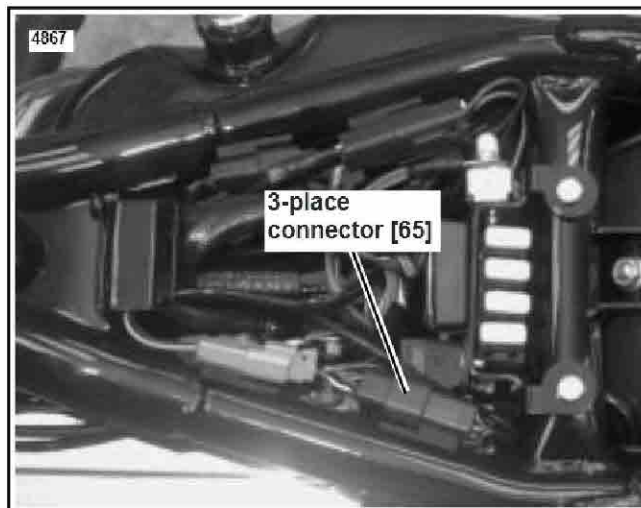

Figure 1. Speedometer Sensor Connection [65] - XLH
3. See Figures 1 and 2. The 3-place speedometer sensor connector [65] is located on the frame beneath the seat. Remove connector from t-stud and disconnect. Detach sensor harness from left frame tube.
- See Figures 1 or 2. Route speedometer sensor cable into position under fuel tank and seat. Connect 3-place connector [65] under the seat.